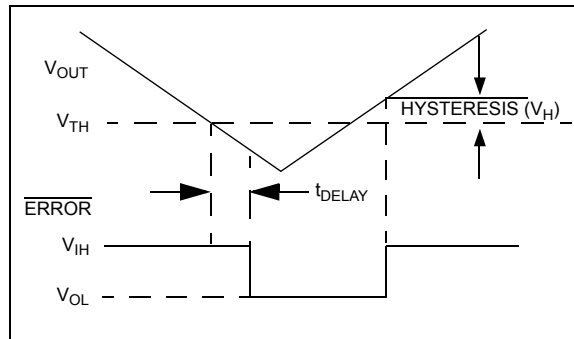

FIGURE 4-2: Error Output Operation.
\overline{ERROR} is driven low whenever V_{OUT} falls out of regulation by more than -5% (typical). This condition may be caused by low input voltage, output current limiting, or thermal limiting. The \overline{ERROR} output voltage value (e.g. $\overline{ERROR} = V_{OL}$ at 4.75V (typical) for a 5.0V regulator and 2.85V (typical) for a 3.0V regulator). \overline{ERROR} output operation is shown in Figure 4-2.
- Changed Figure 4-2.